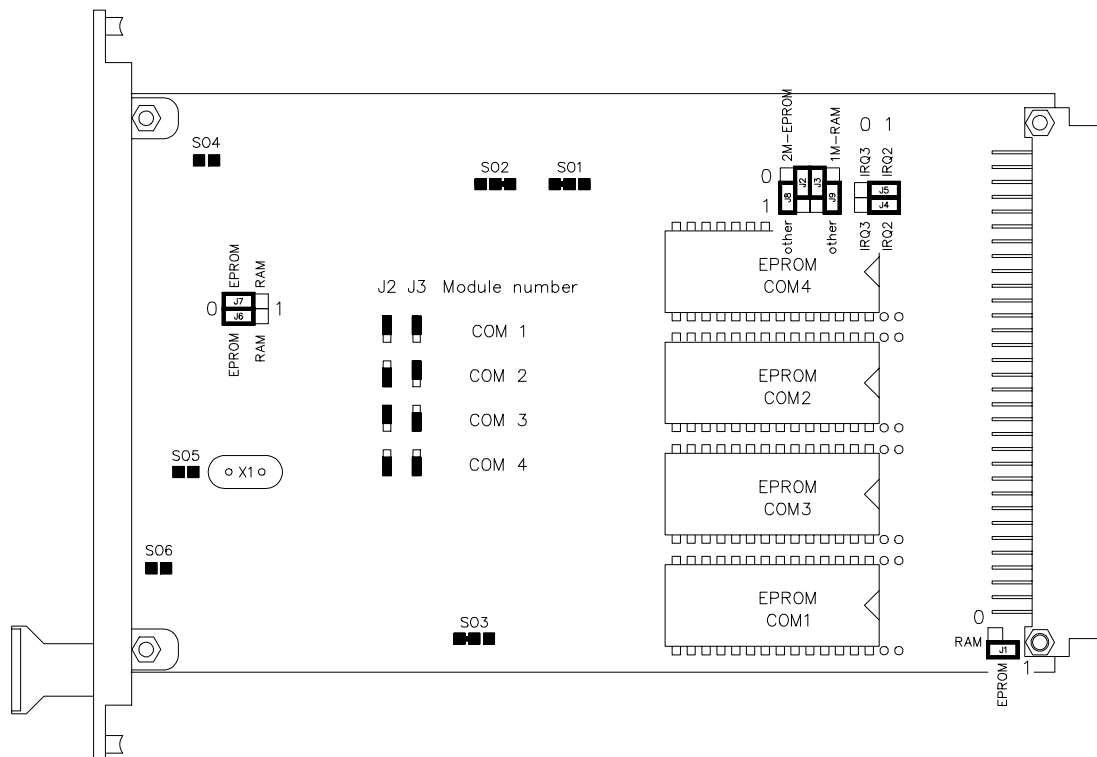

Figure 1 Jumpers and EPROM sockets on 10004/1/1 module
38.4 Kbaud on COM channel A is only possible if oscillator X1 is placed and solder jumper SO6 closed (see Figure 1).